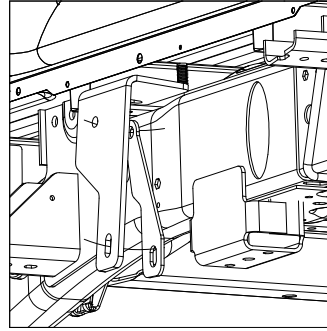
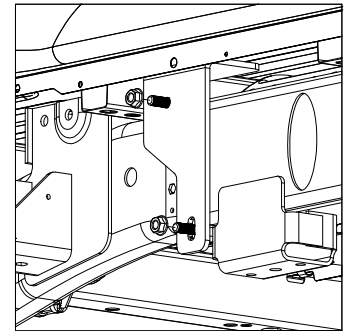

Figure C4: View looking at outside of driver side frame.
Figure C5: View looking at outside of driver side frame.
5. **Install front brackets.** Locate the driver side front bracket, a U-bolt, a stiffening plate, and two flange nuts. Position the bracket behind the cross member under the installation location of the forward mounting rail. Maneuver the bracket so that the 1/2" carriage bolt passes through the slot at the top of the bracket as shown in Figure C4. While holding the bracket flat against the outside of the frame pass the U-bolt over the frame and through the bracket and stiffening plate. Secure with two 1/2" flange nuts, see Figure C5. Repeat for passenger side. The passenger side does not use a stiffening plate. Hand tighten each nut.